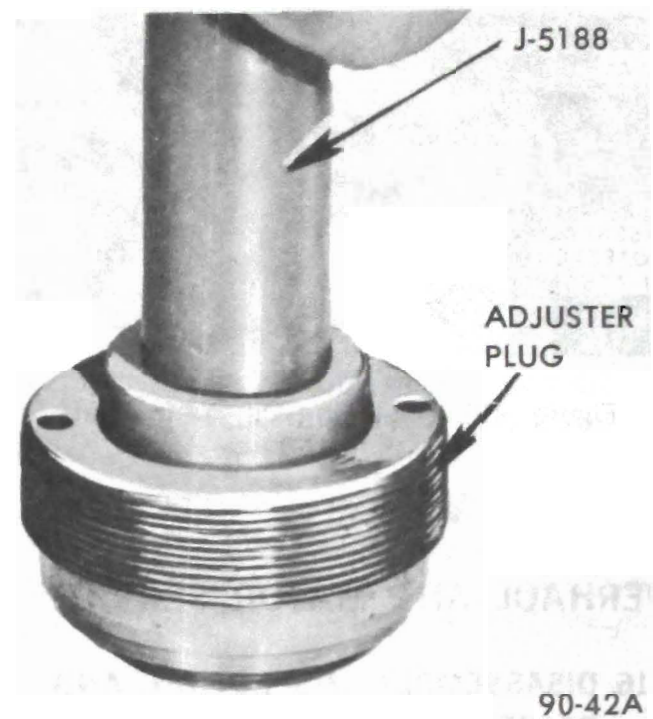

Figure 90-42 Installing Stub Shaft Seal
2. Lubricate new stub shaft seal with power steering oil and install seal with spring in seal toward adjuster plug using tool J-5188. See Figure 90-42. Install seal only far enough in plug to provide clearance for dust seal and retaining ring. Place new dust seal with lip up in plug, then install retaining ring with No. 3 Truarc pliers, J-4245.